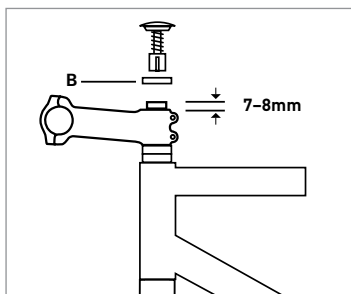

Figure 5
- A carbon steerer tube must extend 7–8mm above the top of the stem clamp and have a 10mm spacer installed between the stem and top cap (fig. 5).